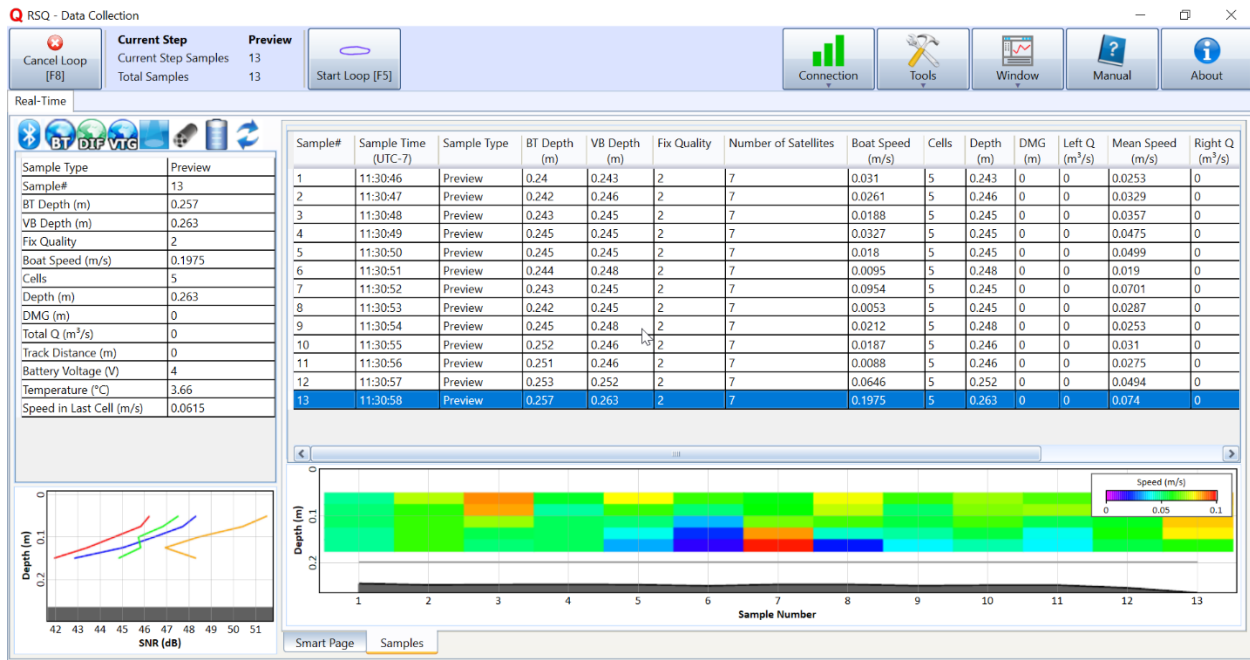

Figure 71. Add Loop Preview
3. To start a Loop, click the Add Loop button. The Loop Preview dialog will appear, as shown in Figure 71. At any point beyond this, pressing the Cancel Loop button will cancel the Loop measurement.